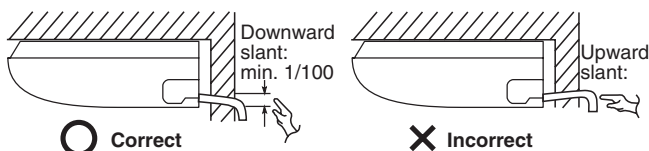

Fig. 1-202
- Connect the drain pipe so that it slopes downward from the unit to the outside. (Fig. 1-202)